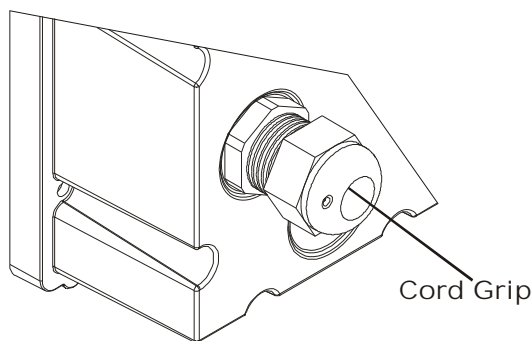

FIG. 84: CORD GRIP INSTALLED
- Screw the Hex Nut onto the threaded end of the Cord Grip Assembly until it is finger tight and the cord grip assembly is flush against the outside surface of the rear cover. (See Fig. 84)